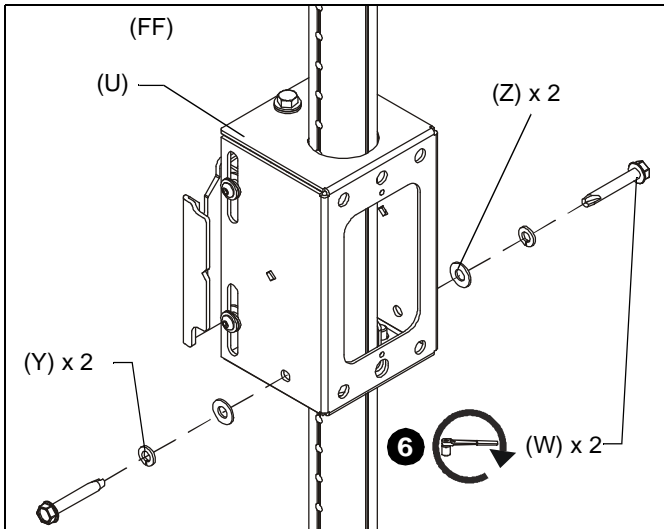

Figure 7
6. Attach array head (U) to column using two 5/16" x 2" hex head self-tapping screws (W), two 5/16" split washers (Y), and two 5/16" friction washers (Z). (See Figure 7)